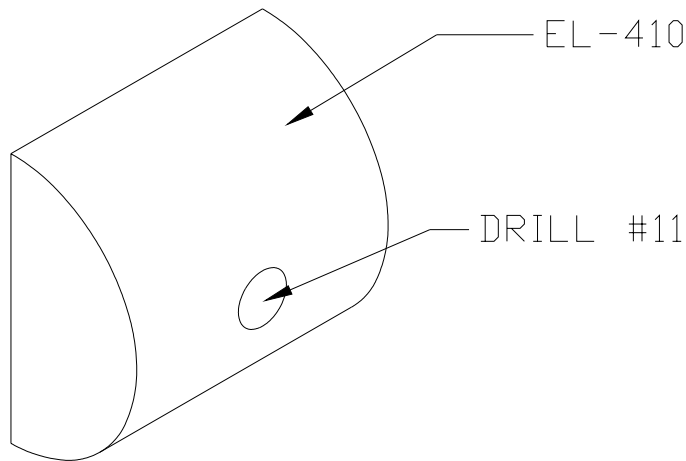

Figure 3.10.1
- 1) Find the four El-410 Stop Blocks. On the center of the radius layout and drill a #11 hole through the part. Countersink the hole to suit a AN509-1032-19R machine screw. Figure 3.10.1.